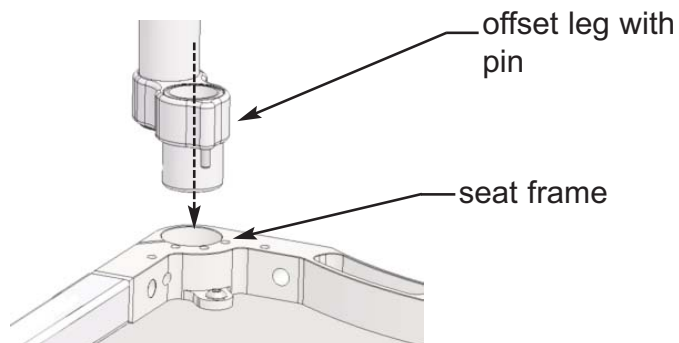

Figure 3
**D** Position the roll-in legs so that the offset points out at a 45-degree angle. Note the small pin that mates with holes in the frame. Make sure that the legs slide "home" into the socket of the seat frame. Use the included ¼" Allen wrench to securely tighten the bolts located at the corners of the frame (Refer to Figure 3).